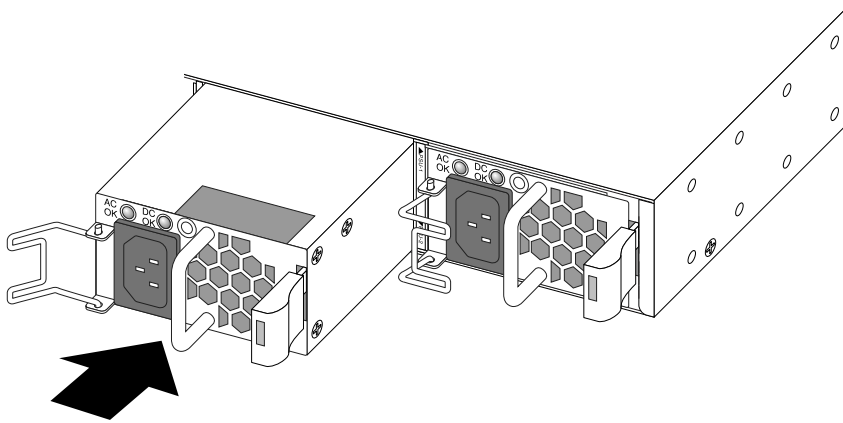

Figure 233: Installing a Power Supply
- 2 Verify that the power supply is right side up (see Figure 233: Installing a Power Supply on page 267).
- 3 Carefully slide the power supply all the way into the power supply bay (see Figure 233: Installing a Power Supply on page 267).